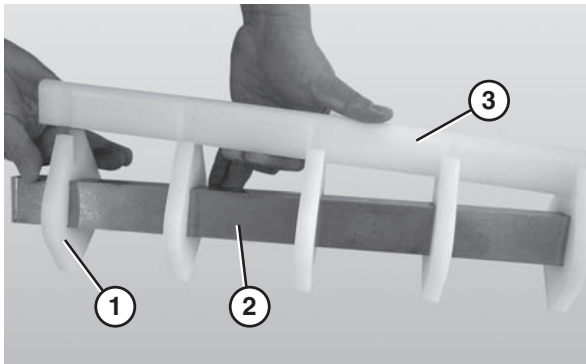

Figure 64
3. Remove the nose bar wear strip (**Figure 64, item 3**).
4. Slide the nose bar pucks (**Figure 64, item 1**) off the nose bar shaft (**Figure 64, item 2**).